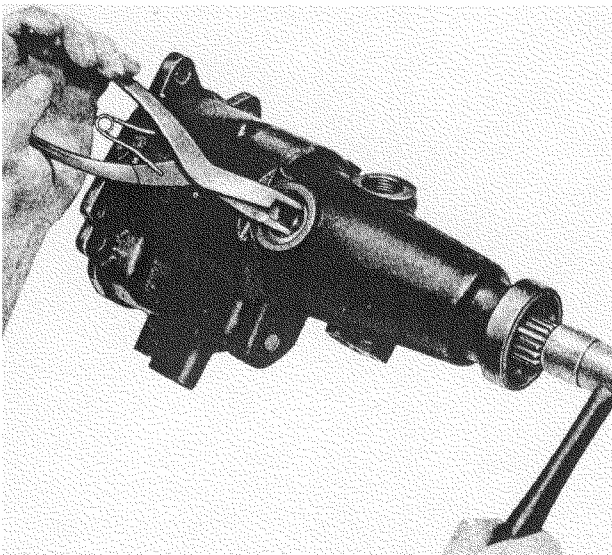

Fig. 31—Removing Output Shaft from Housing
3. Spread rear bearing snap ring with snap ring pliers and lightly tap end of shaft with a soft hammer to free bearing from snap ring (fig. 31), then pull shaft, including ring gear, speedometer drive gear and rear bearing, from housing.